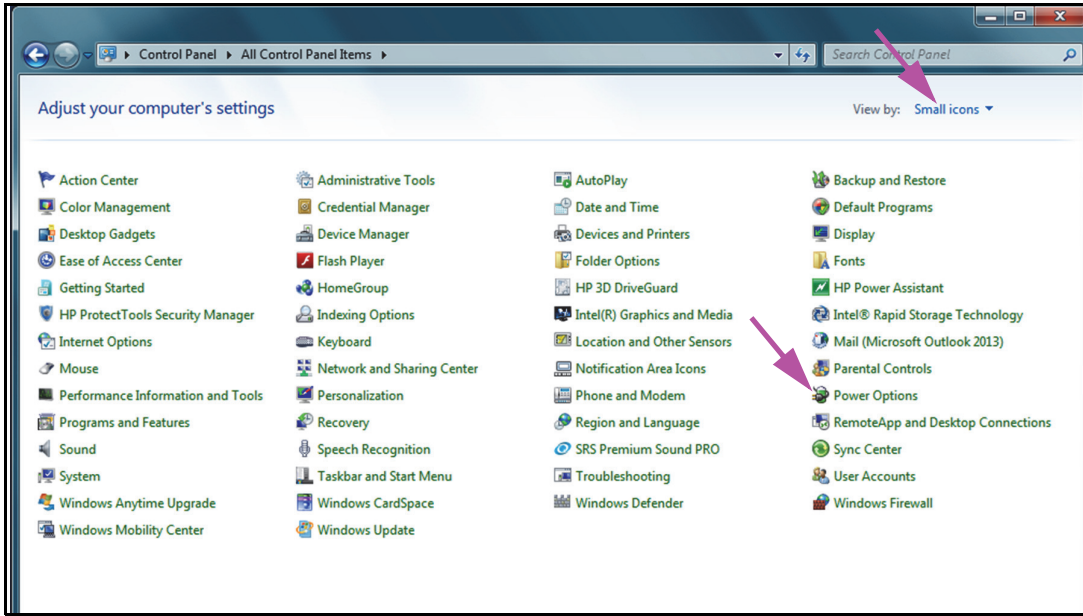

Figure 2-5. All Control Panel Items Window
2. Select **Windows System > Control Panel**. If the view is set for Small icons, the All Control Panel Items window appears as shown in Figure 2-5. Click on **Power Options**.